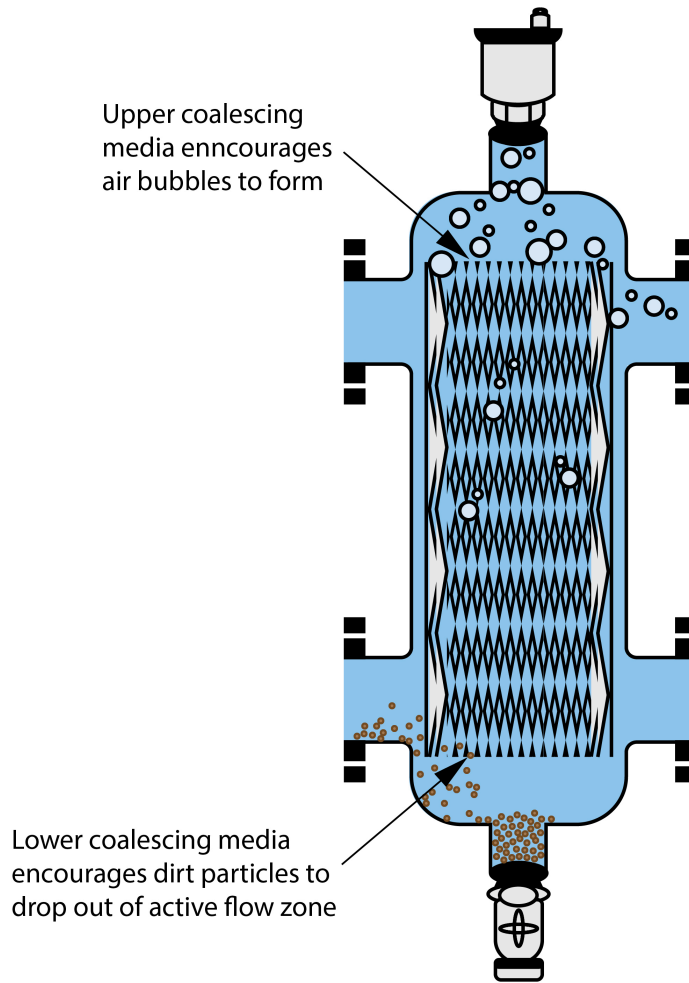

Figure 34 Combined air and dirt separator. (modified from Caleffi, idronics™, 2014).
On commercial systems, pressure gauges may be installed to monitor the pressure drop across a basket strainer (Figure 34) and determine when cleaning is needed.
- **Figure 34** Combined air and dirt separator is modified from original [Figure 6-11] by Caleffi Hydronic Solutions (2014, p. 36) in idronics™ with permission.